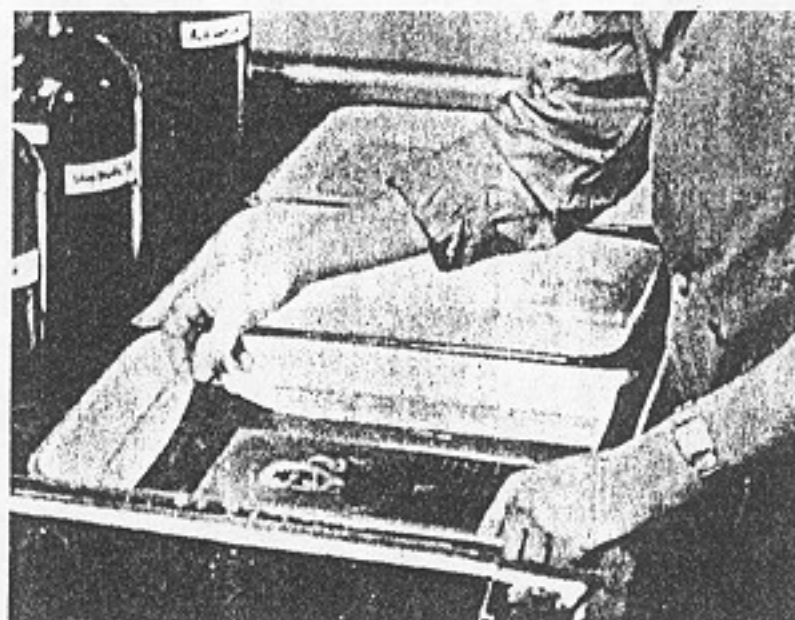

Fig. 150. Stop in Two Baths for 30 Seconds Each
3. Immediately after development in the activator the film is placed in two stop bath solutions for 30 seconds in each, Fig. 150.